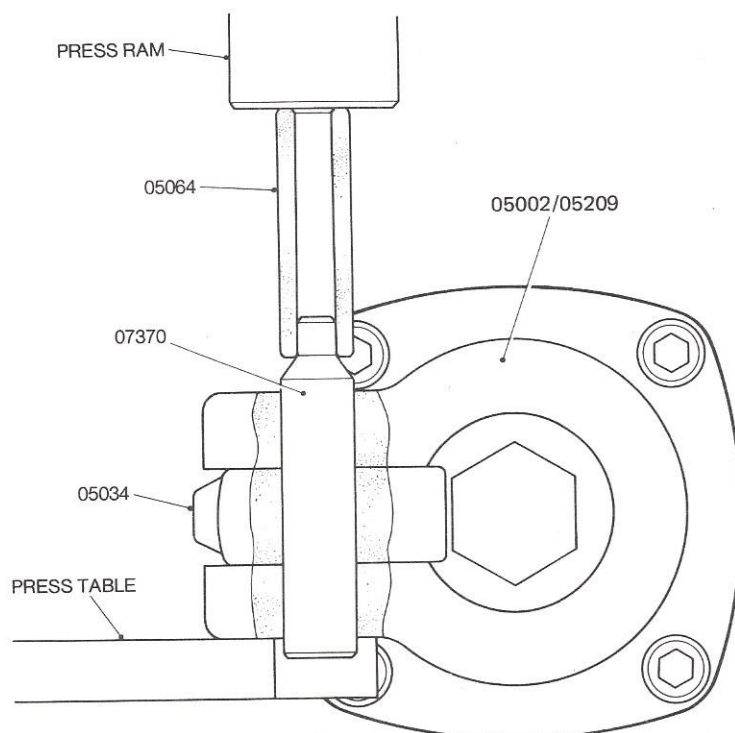

Figure 21 Assembly of the Latch Tension Pin
- 12.1.3 Place the sub-assembly on its side on the base of the press with the smaller diameter of the Press Tool uppermost. Locate the tapered end of the Tension Pin over the upper end of the Press Tool. Centralise the assembly under the press ram and push the Tension Pin through all three holes until it is flush at the upper end. The Press Tool will fall out during this assembly. See Figure 21.